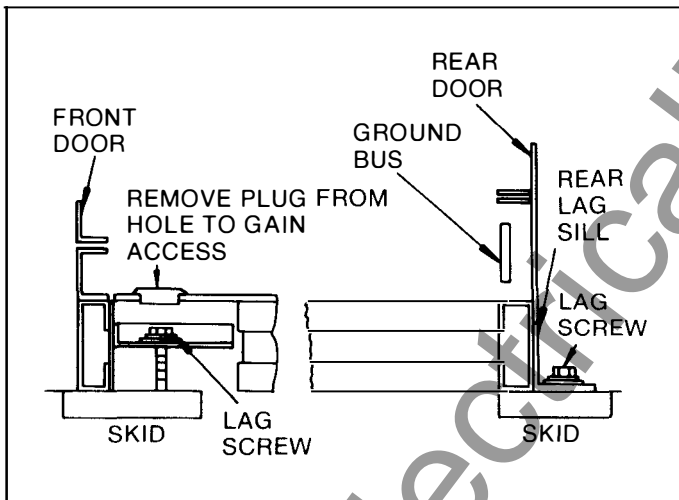

Fig. 4-6. View showing method of attaching equipment to shipping skids
2. REMOVE THE SHIPPING SKIDS—The equipment is fastened to the shipping skids with  $\frac{3}{8}$ -3 lag screws through the equipment anchoring holes. See Fig. 4-6.